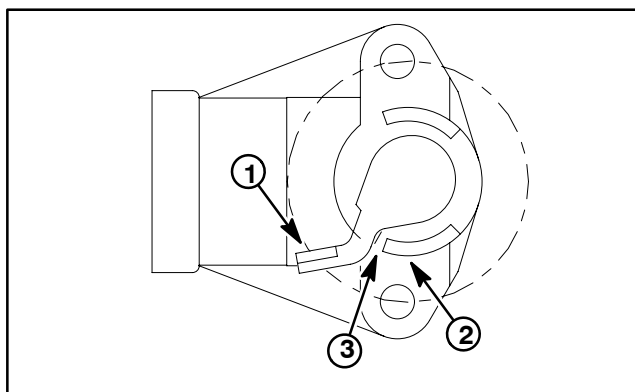

Figure 14
A. With the accelerator pedal released, the roll pin on the throttle position collar should keep the potentiometer lever from 0.050" to 0.100" (1.3 to 2.5 mm) from the lower stop on the potentiometer body (Figure 14).